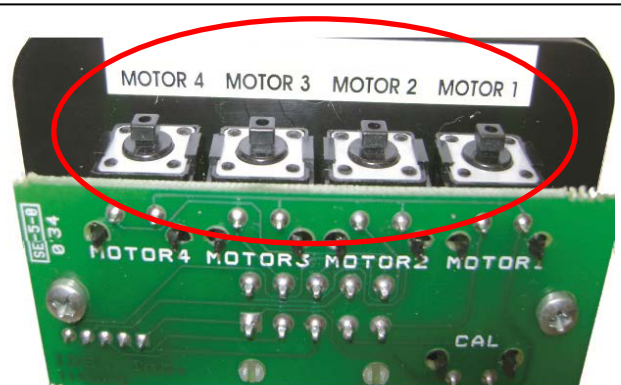

Figure 4 Bunk Lift Motor Buttons (Back top of touch pad shown)
4. The unit is now ready to raise the bunk. Press and hold the **BUNK LIFT MOTOR** buttons 1 and 2 on the back of the **TOUCHPAD (FIGURE 4, page 2)**.